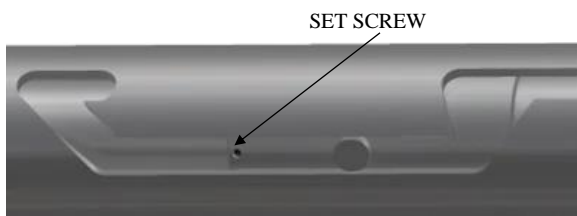

Fig. 7
K-2.16) Rotate J-body (20) as needed to position J-pin of J-pin bottom sub (23) along J-slot to access threaded holes (Fig. 7). Screw set screws (28) into J-pin bottom sub (23).